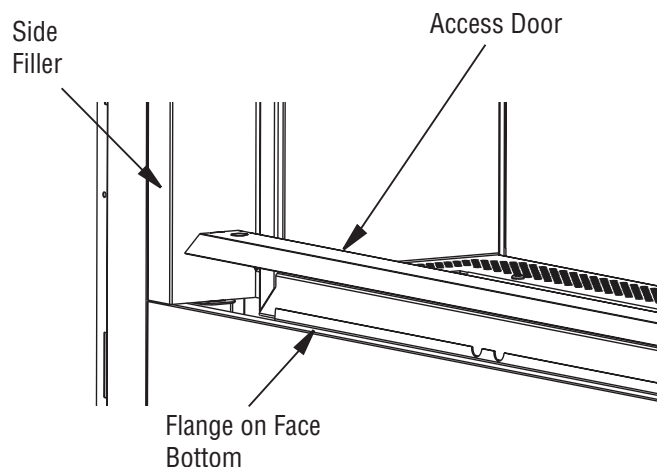

Figure 22 - Access Door for See-Thru Applications
1. Place access door into rectangular opening in front of the glass door with the slanted side facing forward. The slanted surface will slide underneath the flange of the bottom face. Insert tabs on side of access door into slots on retaining brackets (See Figure 22).
1. Remove Access Plate (See Figure 22).